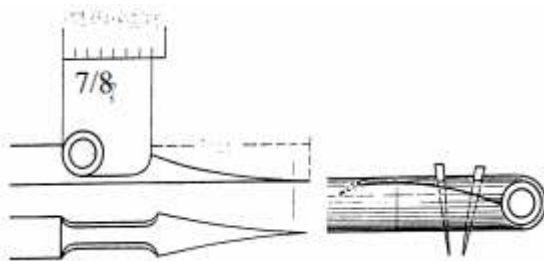

Fig. 4 Closed bent mortise
(1) Rectangle bent mortises:
(2) Pentagon and hexagon bent mortises:
- Closed bent mortise is to hold the tube-tenon closely. Cut a slit at 30 cm from the tube end, the depth of slit is half of the diameter of tube, cut out a groove, the length of groove is $\frac{7}{8}$ of the perimeter of the tube-tenon (Fig. 4).